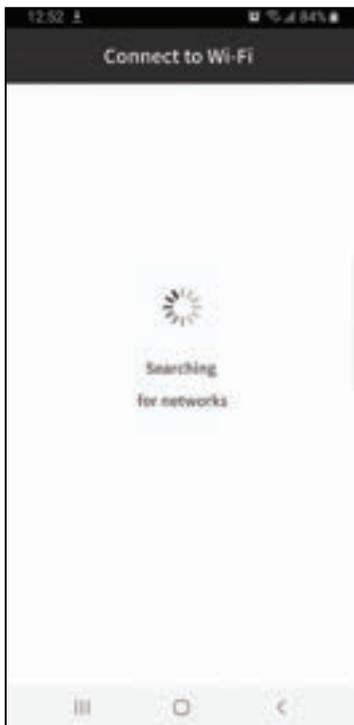

Fig. 7
- Select desired Wi-Fi and connect by entering the Wi-Fi password of your home (Fig. 7 & 8).